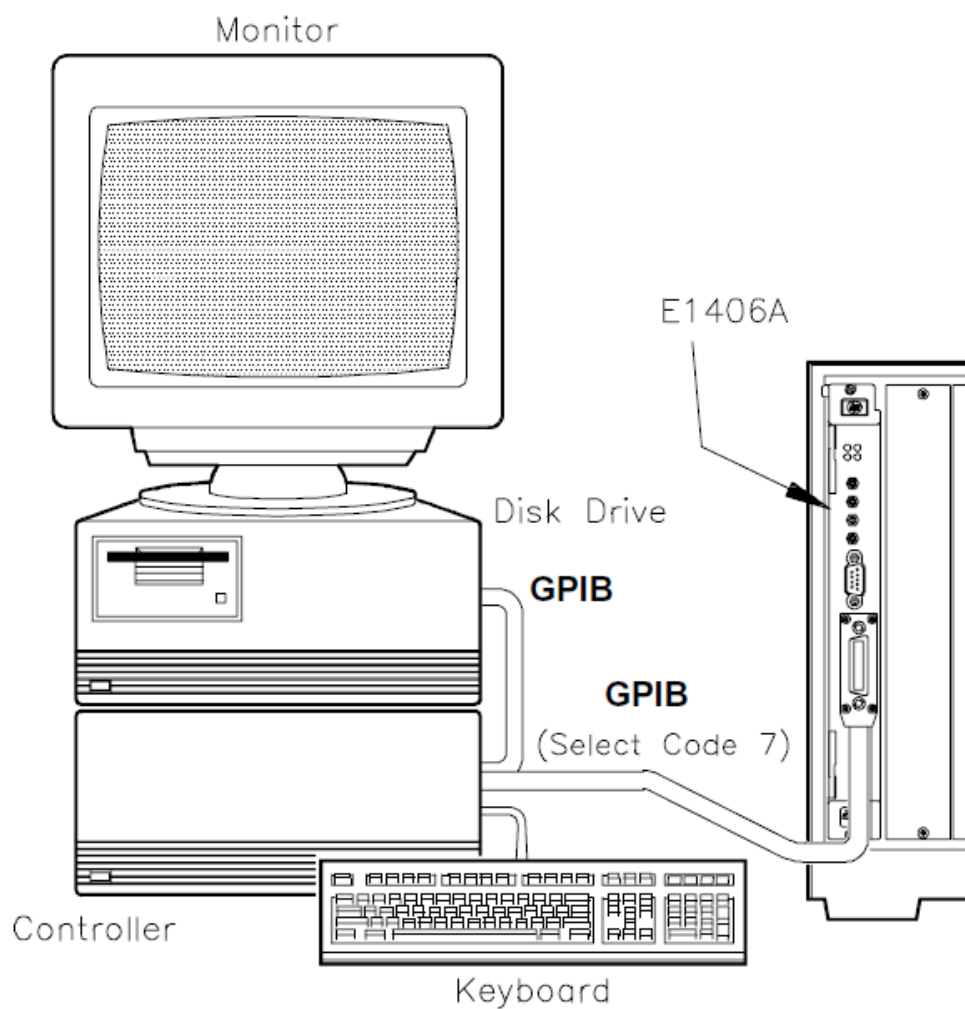

Figure 2-10 Test F-3: Hierarchy Info Connections
- Connect computer to command module (see Figure 2-10)